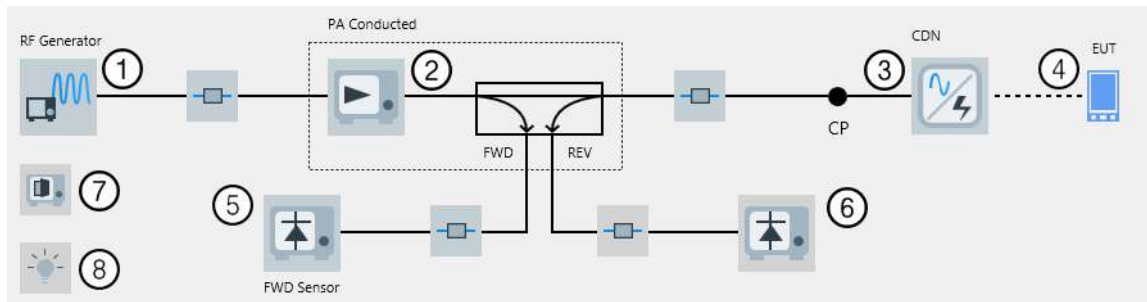

Figure 4-150: EMS hardware setup diagram for CDN/EM-Clamp (without Sensor) in EUT Test View
To select a device or a signal path for integrating it into the hardware setup, click its icon in the diagram. For example, click the generator icon (labeled 1 in Figure 4-150).
Note that this monitoring procedure is different from other setups. For example, an EMS - CDN/EM-Clamp \(without Sensor\) setup provides for tests without a receiving transducer and sensor (see Figure 4-150).
- The "EUT Test View", see Figure 4-150